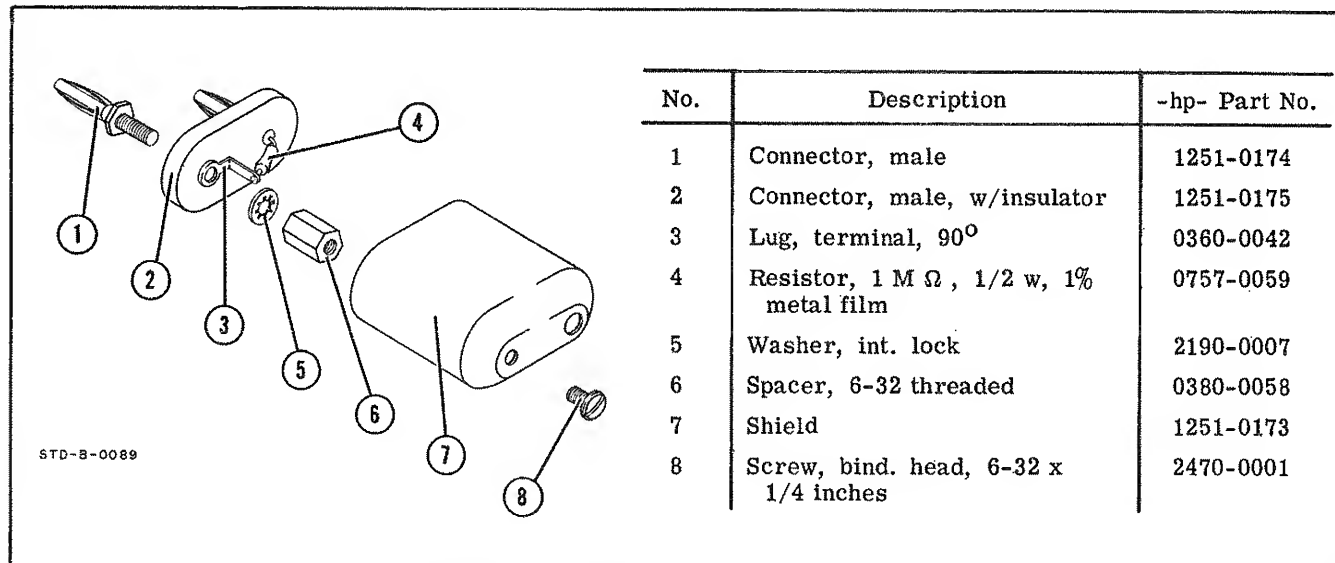

Figure 5-3. Shielded Load for Residual Noise Check
- An AC Voltmeter (-hp- Model 331A) and a 1 megohm shielded resistor (refer to Figure 5-3) will be required for this test.